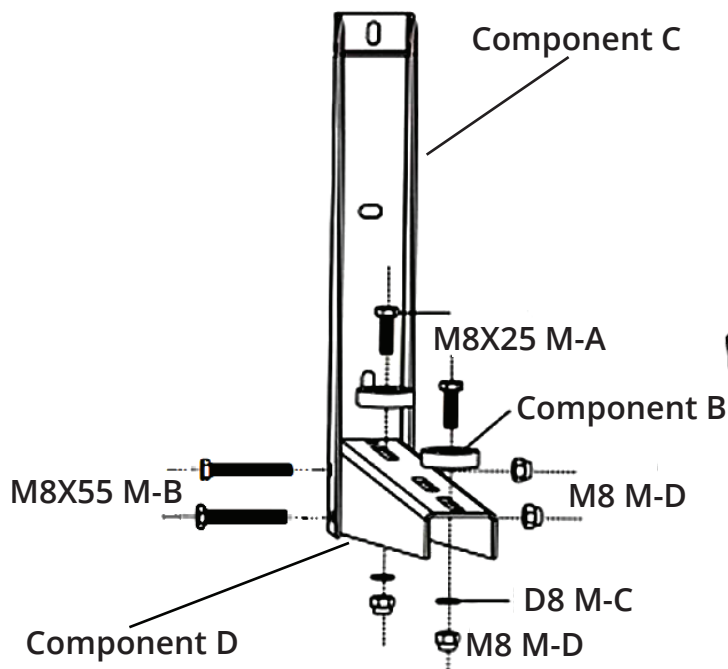

Fig. 2.1
1. Take one of component C and one of component D. Using **Fig. 2.1** below as a guide, stand component C upright and insert component D into the bottom of component C. Make sure to align the four bolt holes (two on each side) at the bottom component C with the corresponding holes of component D. Component C and component D should be perpendicular from one another creating an "L" shape.
4. Next, take two bolts (component M8x25 M-A) and place washers (component B) onto them. Then, insert the bolts with washers into the front and rear slide holes on the top of component D. Next, put washers (component M-C) on the ends of each bolt and then secure with nuts (component M-D). ***DO NOT overtighten the nuts.*** Please refer to **Fig. 2.1**.